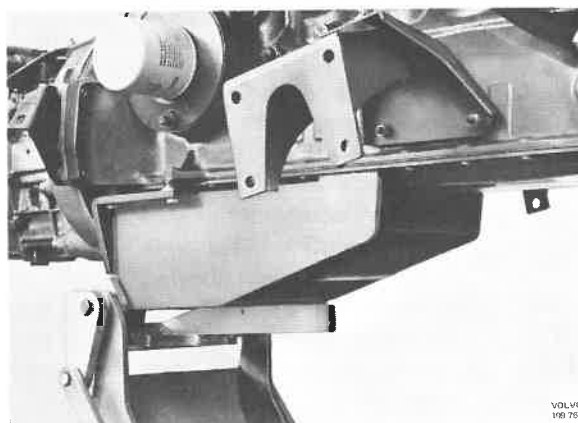

Fig. 21-4. Fixing the engine in fixture 9916
- b. Place engine fixture 9916 on workshop lift 9809. Run the jack in under the engine, jack up and screw tight the fixture, see Fig. 21-4.